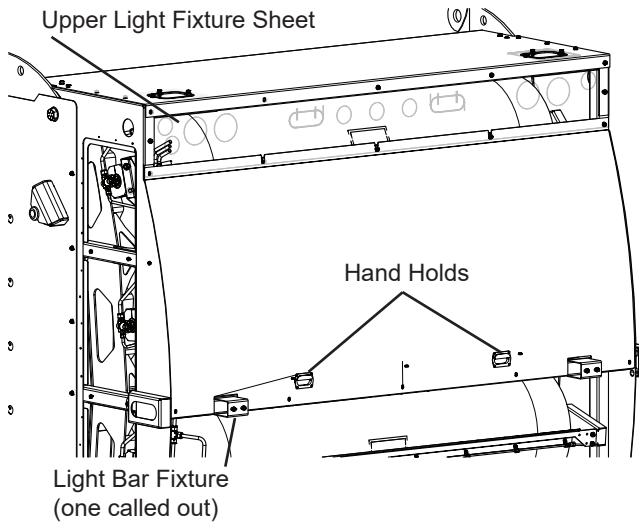

Figure 29
1. Reinstall the top cover sheet by using the hand holds on the top cover sheet to slide the top cover sheet upward so it slides under the lip of the Upper Light Fixture Sheet, and toward the tailgate frame (over the light bar fixture) (Figure 29).